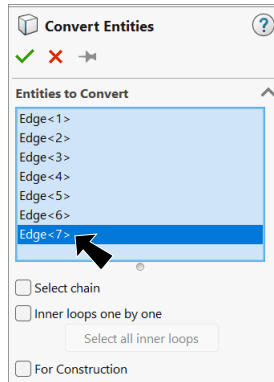

**Fig. 4**
Step 2. Click **Plane1**  in the Feature Manager and click **Sketch**  on the context toolbar, **Fig. 4**.